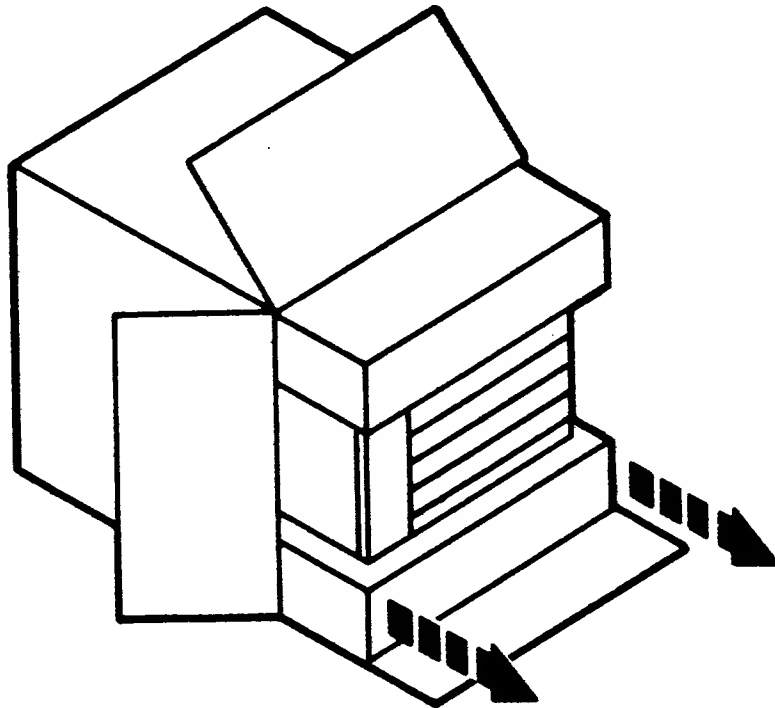

Figure 2-2. Display Box
1. Unpack the box labeled Xerox Display (Figure 2-2) by opening the box and then placing it on its side, so that the display is resting on the styrofoam packing.